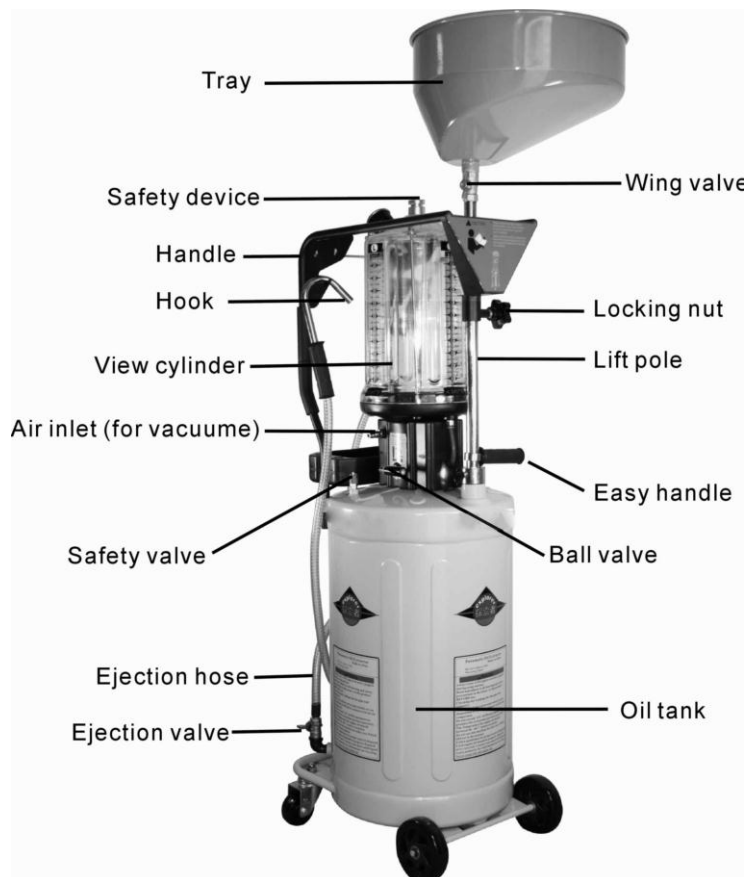

Fig 1
7. for fist time to use, unscrew the locking nut(see fig 1) and spin the lift pole several round, then lift the lift pole up, now it is being easy to up and down.
1. Turn off the machine ball valve (fig1) and the extraction valve(fix on the extrction hose)
2. Connect the compressed air to the machine air inlet (fig1)
3. Open the ball valve (see fig 1)
4. If waste oil only extracted into the **cylinder**. Please make sure the ball valve (Fig.1) is closed.
5. If waste oil extracted to the **oil tank** through the cylinder. Please open the ball valve (Fig.1) accordingly. Also the oil tank need to be vacuum before extraction operation.
1. turn off the air supply and Turn on the ball valve (Fig 1), if vacuum existed in the tank, and then oil from cylinder will be fast transferred into the tank.
2. If no vacuum existed in the tank, turn on the wing valve(fig 1) connected to the lift pole to make a quicker transferring of waste oil into the tank.
1. Make sure the ball valve(fig 1) and wing valve(fig 1) are closed
2. open the left ejection valve(see fig 1)